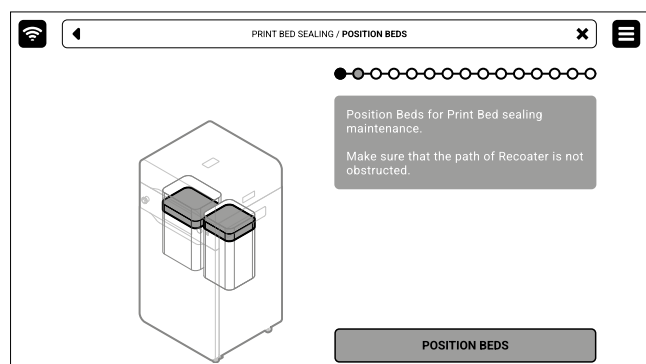

Fig. 12.19. **POSITIONING BED** screen.
7. Press **POSITION BEDS** to begin the positioning process of the Beds (fig. 12.19).